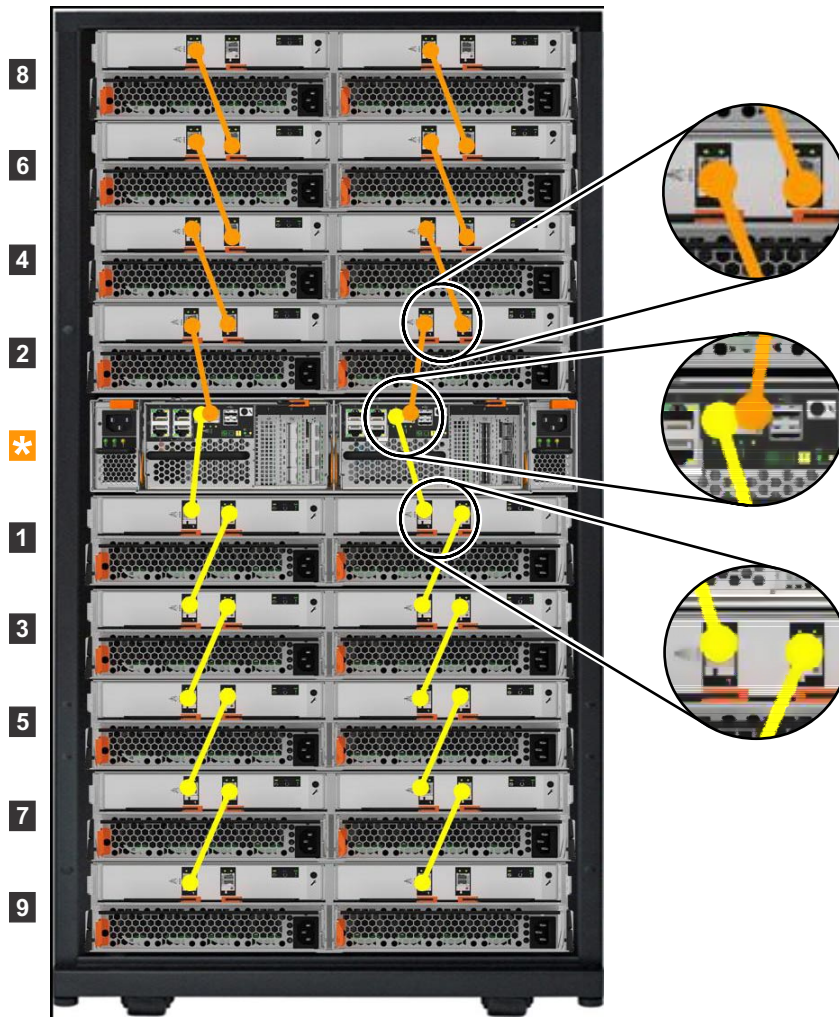

Figure 43. Connecting the SAS cables
1. Using the supplied SAS cables, connect the control enclosure to the expansion enclosure at rack position 1, as shown in Figure 43 on page 52.
2. To add a second expansion enclosure to the control enclosure, use the supplied SAS cables to connect the control enclosure to the expansion enclosure at rack position 2, as shown in Figure 43.
3. If additional expansion enclosures are installed, connect each one to the previous expansion enclosure in a chain, using two Mini SAS HD to Mini SAS HD cables as shown in Figure 43.